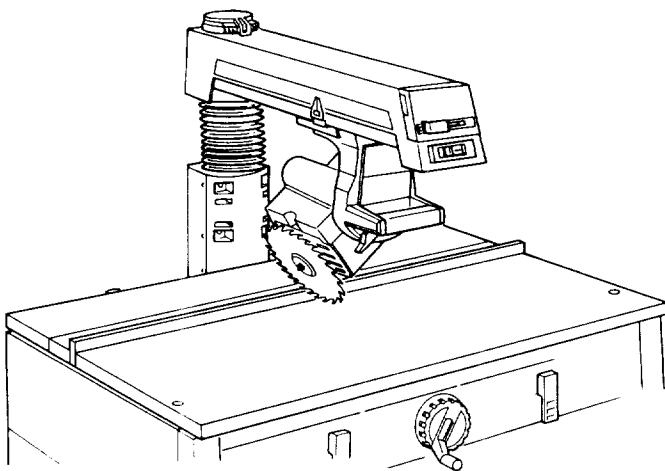

Fig. 68
13. Unlock the *bevel lock* and move the *motor* to the 45° bevel position. (Figure 68)